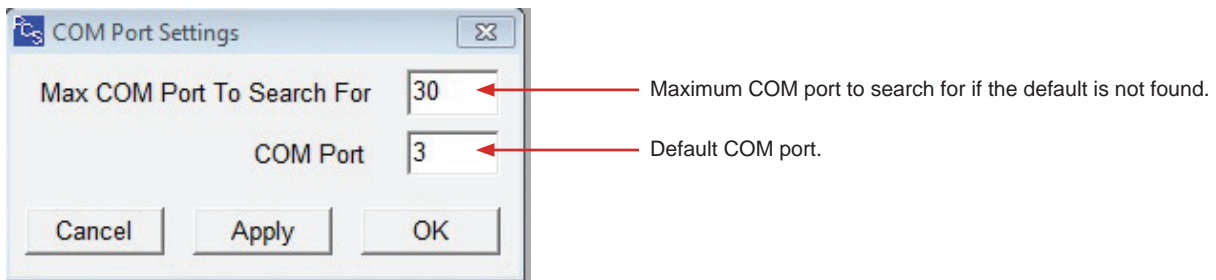

Figure 2
2. The "COM Port Settings" dialog box will be shown. **Reference Figure 2.**